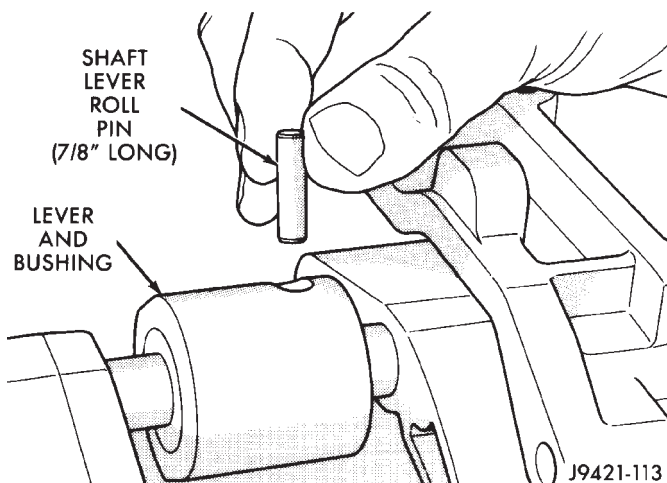

Fig. 110 Starting Roll Pin In Shift Shaft Lever
(10) Align roll pin holes in shift shaft, lever and bushing. Then start roll pin into shaft lever by hand (Fig. 110).